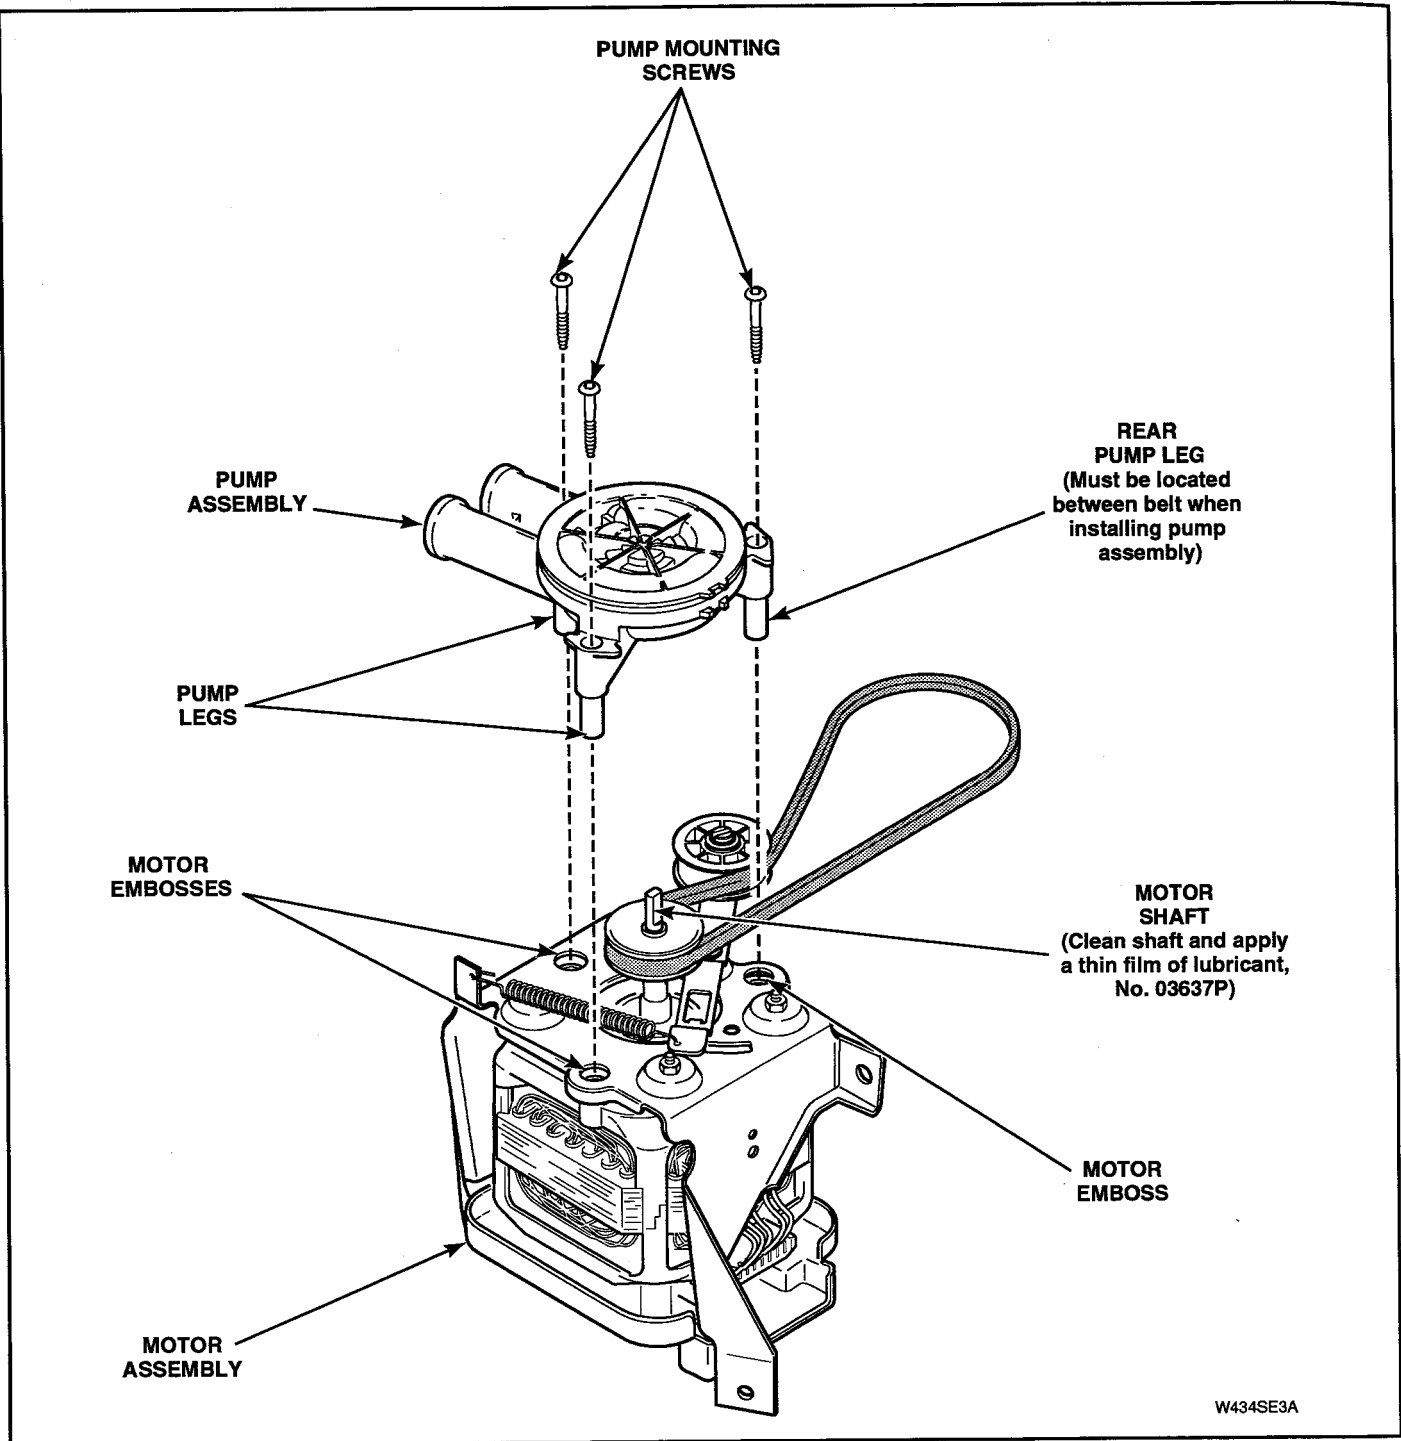

Figure 5-19
**IMPORTANT:** Carefully lay motor on its side. Observe belt configuration around rear pump leg. Belt **MUST** encircle rear pump leg when reassembling. See Figure 5-19.
- Remove three screws holding pump assembly to motor. See Figure 5-19.
- Align pump impeller hub with motor shaft. Make sure belt encircles rear pump leg, carefully push pump onto motor shaft so three pump legs bottom out in the embosses on motor housing before screws are tightened. See Figure 5-19.